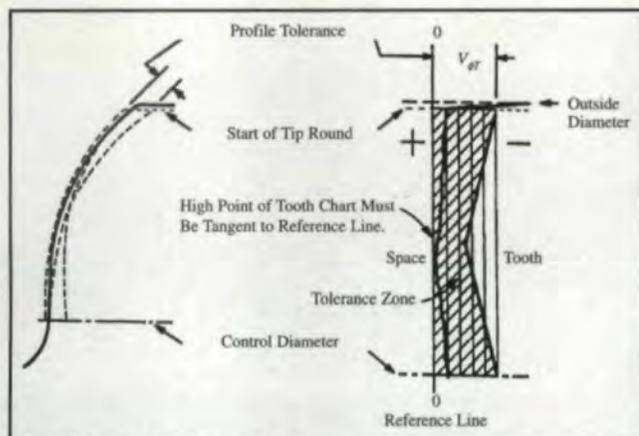

Fig. 2 - AGMA "K" Chart method of profile evaluation.
5. "K" Charts vs. Slope, Form and Total. AGMA 2000 A-88 uses the familiar "K" charts for the evaluation of involute and tooth alignment (lead) data (see Fig. 2). ISO 1328-1 uses a rectangular tolerance zone in the main body of the standard for "total" deviation. However, an informative annex uses "slope" and "form." The problem with AGMA "K" charts and the rectangular tolerance zone of ISO is that they are like "go/no go" gages. They are not useful for today's statistical process control techniques. Also, the zones are wide enough to allow for the effects of runout on the profile or lead errors. For this reason, they are not very discriminating as far as determining the real involute or lead errors, independent of runout. The technique described in ISO 1328-1 allows the determination of slope and form deviations. These are useful for the determination of factors that have an influence on functional characteristics of the gears. For example, slope and mean slope are useful for the